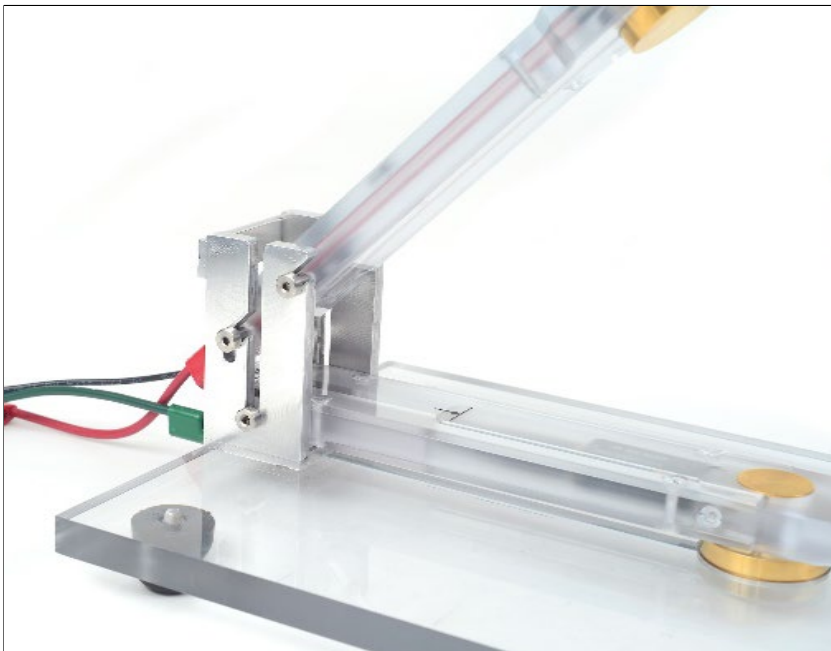

Figure 11. The Discharge Arm sitting up right
2. Lift the **Discharge Arm** (C) and place it into the notch of the **Bracket** (E) (Figure 11).